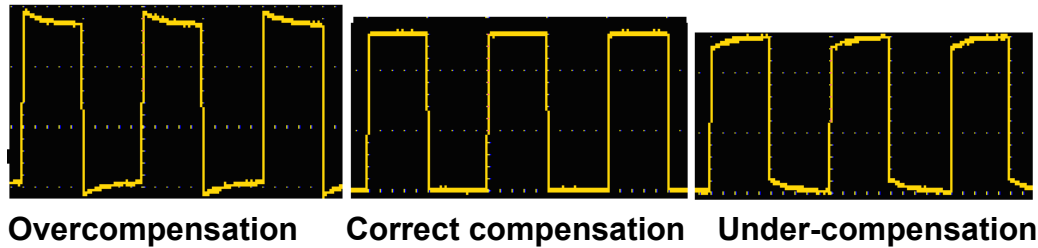
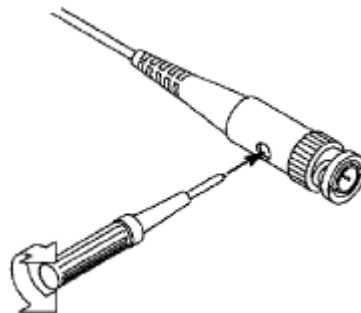

Figure 3-4: Display Waveform of Probe Compensation
Figure 3-5: Probe Adjustment
2. Check the displayed waveform and adjust the probe until the compensation is correct. See *Figure 3-4* and *Figure 3-5*.